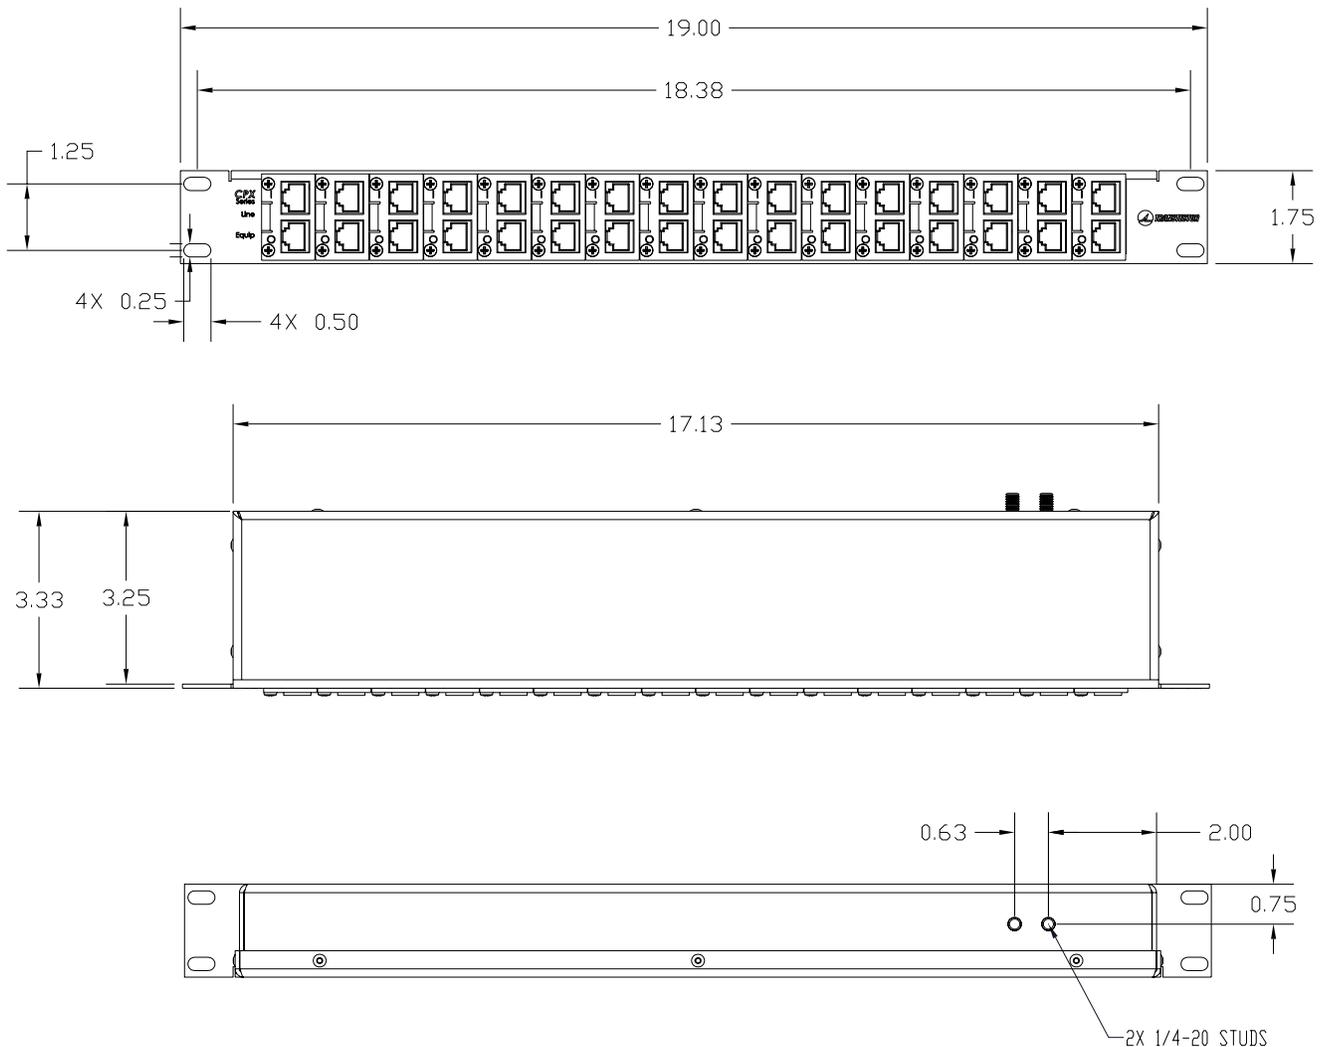
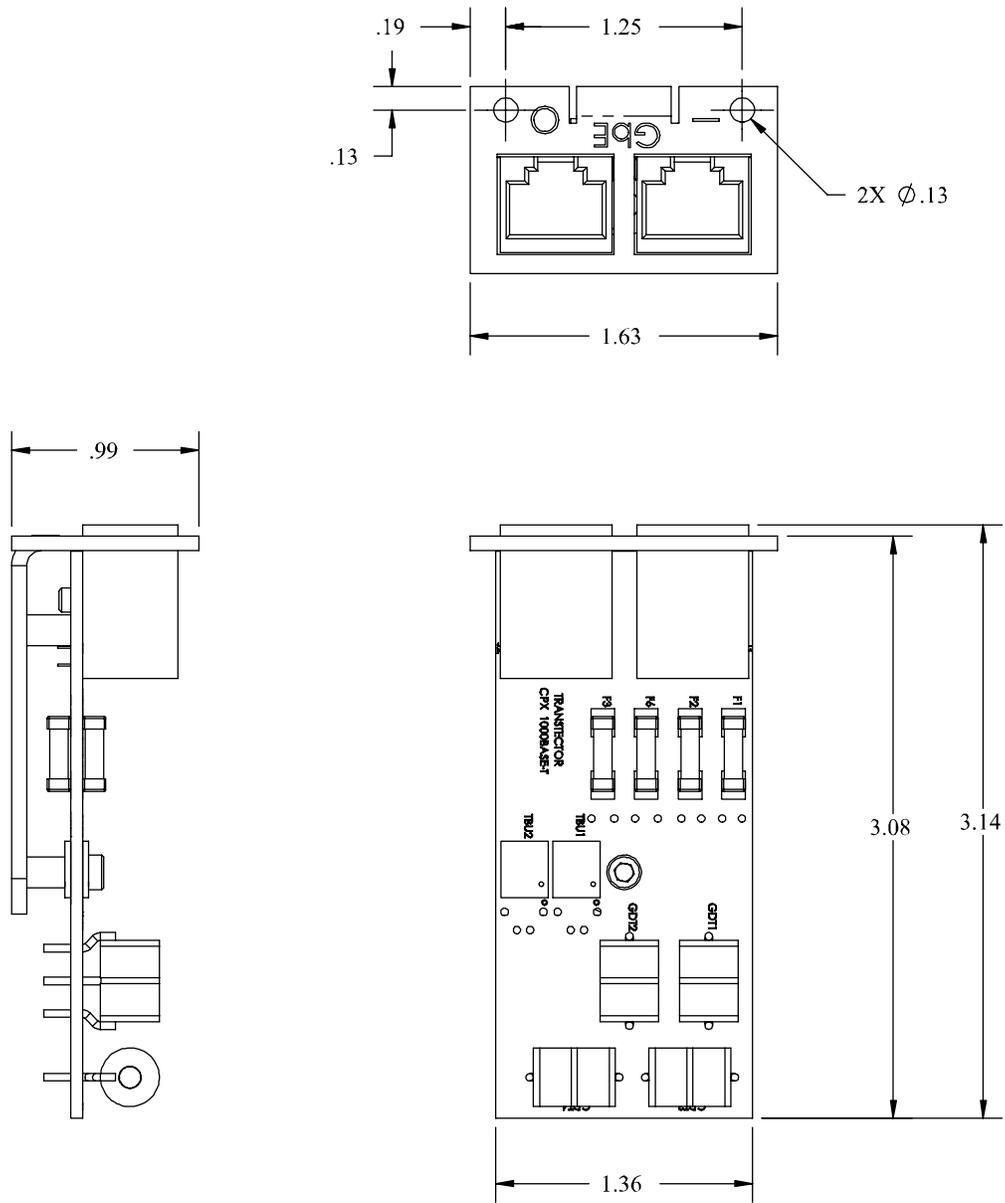

Figure 1: CPX Series Mechanical Outline Drawing
Figure 2: CPX Protection Module Mechanical Outline Drawing
**6. INSTALLATION:** The CPX SERIES is intended to be installed per article 800 of the NEC indoors, using one rack space within a 19" RS-310-C standard rack. Attach the CPX SERIES into the 19" rack using the four each 10-32 screws at each corner of the chassis front face (hardware provided). A mechanical outline drawing is shown in Figure 1. **Warning!!** The dedicated dual ground studs on the rear of the unit must be connected to the nearest master ground bar for proper operation. Refer to Transtector installation instruction document 1200-201 for installation, wiring & replacement of the individual protection modules; an outline drawing for the modules is given in Figure 2.